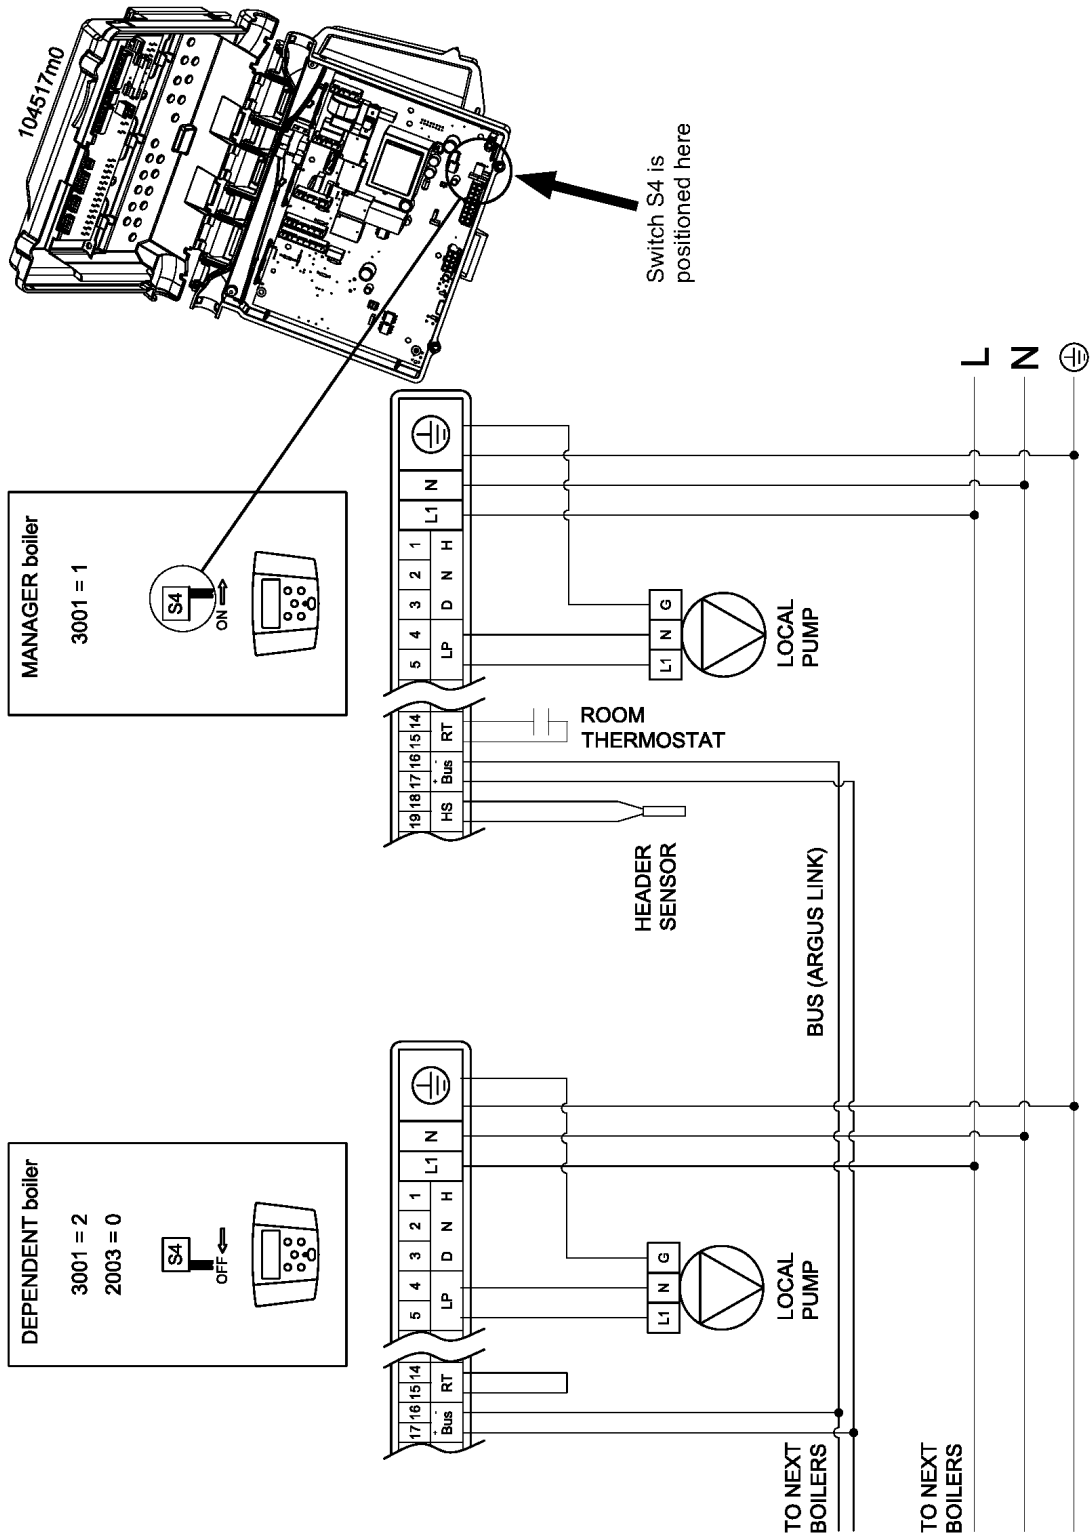

Figure 9-5 Cascade electrical wiring (maximum 8 boilers)
- 2 - make the wiring installation as shown in Figure 9-5;
4 - gain access to the Dependent boiler #2. Here, set the parameter 3001 = 2 and move the switch S4 (S4 switch is inside the control board as illustrated on Figure 9-5) in the OFF position (see Figure 9-5). Also be sure parameter 2003 is set to 0.
5 - gain access to the next dependent boilers and repeat, on each dependent, the same procedure like in precedent step 4, considering that parameter 3001 will take the increment value corresponding to the dependent boiler and move the switch S4 in the OFF position (see Figure 9-5). Be sure parameter 2003 is set to 0 on each dependent boiler.